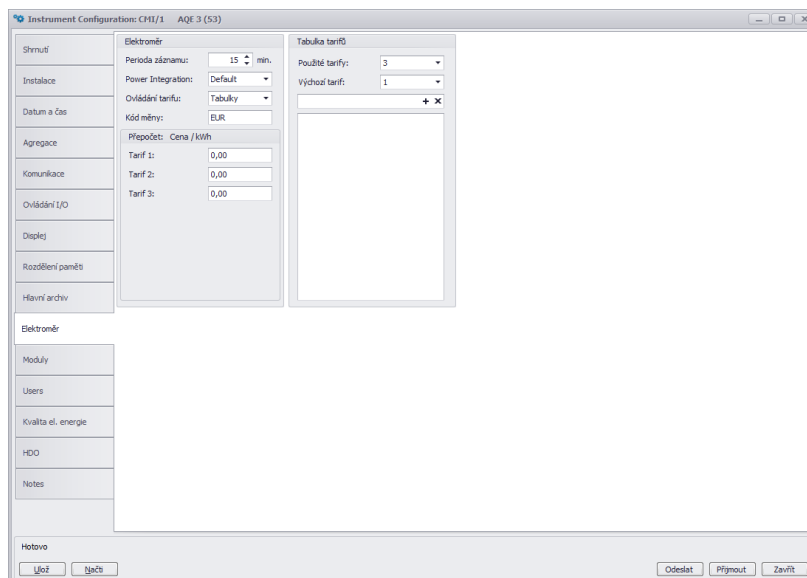

Figure 20: ENVIS.Daq — setting the electricity meter and tariffs and electricity prices.
2.4.8 Electricity meter (fig. 20)